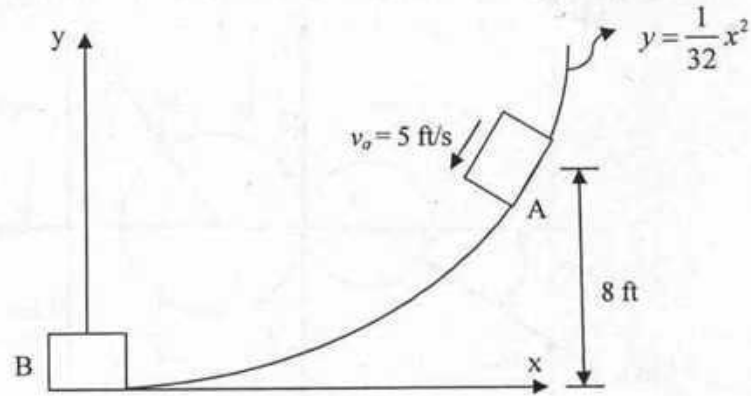

FIGURE 7
8. Referring to FIGURE 7, a 10-lb block passes point A on the smooth track with a speed of $v_a = 5$ ft/s. Determine the normal reaction of the block when it reaches point B. (10)